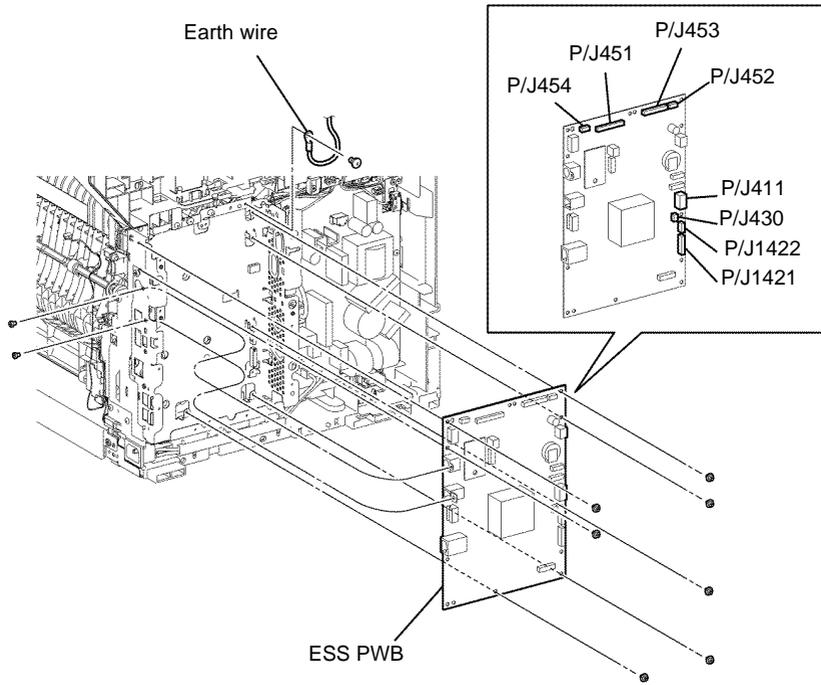

Figure 6 ESS PWB removal
17. Disconnect all connectors from the ESS PWB, Figure 6.
18. Remove one screw (silver, M3, 6mm) fixing the earth wire, Figure 6.
19. Remove seven screws (silver with spring washer and plain washer, M3, 6mm) and two screws (silver, M3, 4mm), then remove the ESS PWB, Figure 6.